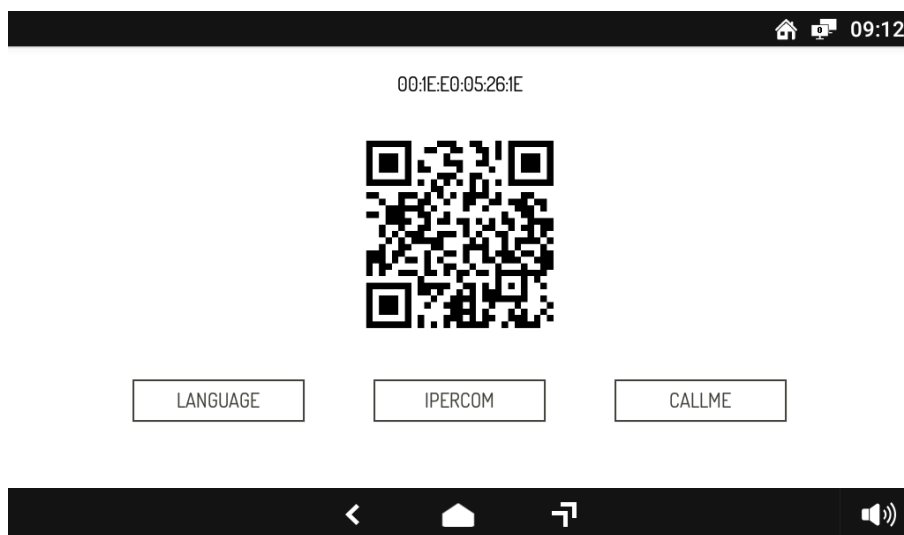

Figure 651: startup screen of an unconfigured VOG7 and MAX 1717/3x and 1717/2x video door phone
-  If there are different video video door phones in the system, simply press the “IPerCom” button only on the video door phone from which you want to access the configuration menu. Once the configuration has been completed and distributed to the system, the other video door phones automatically exit the screen shown above (Figure 651) and operate in IPerCom mode as done during the configuration definition phase.
-  Once you have selected the IPerCom mode, if you want to return to the screen in Figure 651, you need to perform a factory reset operation.
-  Once you have selected the CallMe mode, if you want to return to the screen in Figure 651, you need to perform a factory reset.